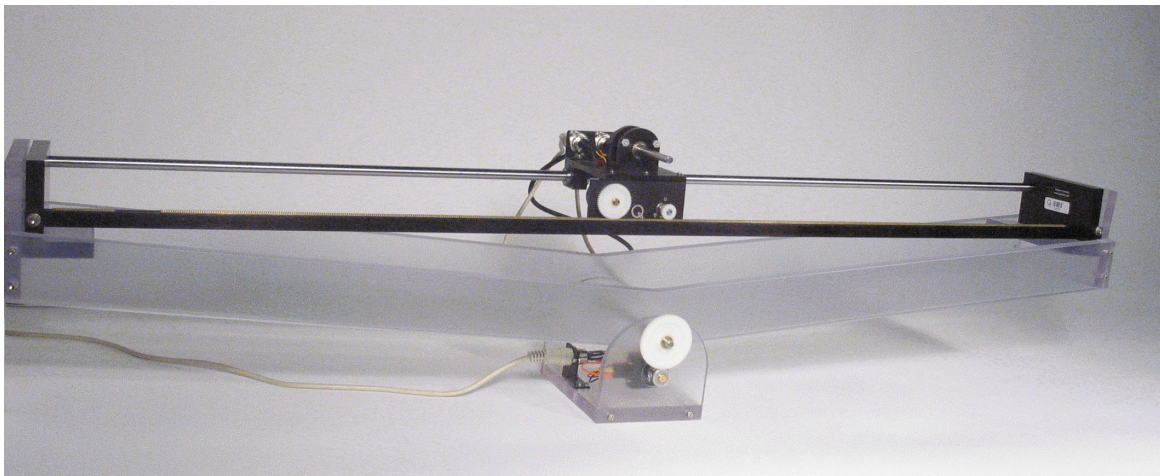
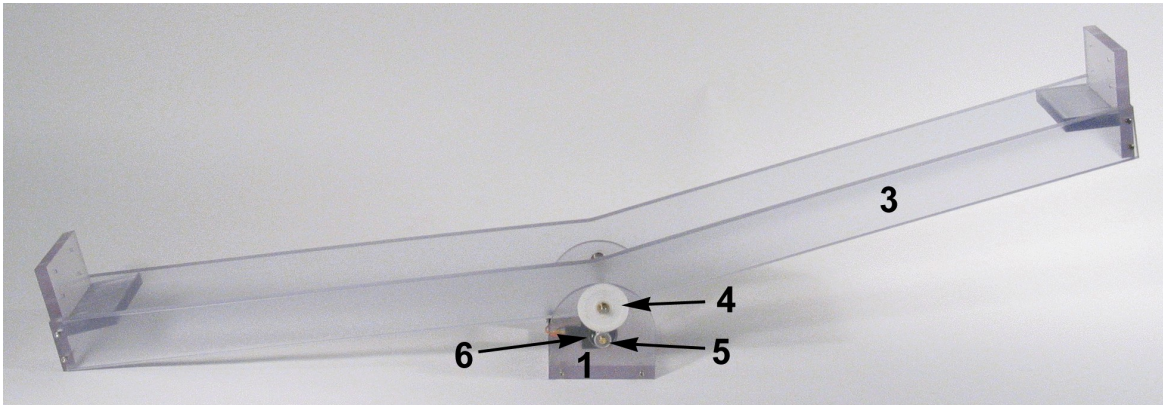

Figure 1 IP02 on the SEESAW-E
Figure 2 SEESAW-E Nomenclature
As illustrated in Figure 1, below, the SEESAW(-E) module is designed to accommodate either the IP01 or IP02 system, which is to say that the IP01 or IP02 cart and track can be placed on top of the seesaw. The Seesaw module per se is shown in Figure 2, below, and consists of two long arms hinged onto a support fulcrum. The system is manufactured of precisely machined polycarbonate with a durable matte finish. The seesaw can tilt freely about a rotation (a.k.a. pivot) axis mounted on an instrumented fulcrum. In order to measure the seesaw tilt angle, the rotation axis is coupled to either a potentiometer or an encoder through a pinion-and-anti-backlash-gear system. The resulting gear ratio is 3:1. If the SEESAW module is used, the tilt angle is measured using a potentiometer. If the SEESAW-E module is used, then the potentiometer is replaced with a 1024-line quadrature optical encoder to sense the position angle.
As illustrated in Figure 1, above, the objective of the seesaw experiment is to design a control system to maintain the seesaw balanced using a sliding powered mass.
Figures 2 and 3, below, depict the SEESAW-E module.
As a component nomenclature, Table 2, below, provides a list of all the principal elements composing the SEESAW-E system. Each of these elements is located and identified, through a unique identification (ID) number, as represented in Figures 2 and 3, above.
On the SEESAW-E, the seesaw tilt angle is measured with one optical encoder, which is represented in Figures 2 and 3, above, by component #6. The encoder model used in the SEESAW-E is a **US Digital S1 single-ended optical shaft encoder**. It offers a high resolution of 4096 counts per revolution (i.e. 1024 lines per revolution with two channels in quadrature). The complete specification sheet of the S1 optical shaft encoder is included in Appendix B.